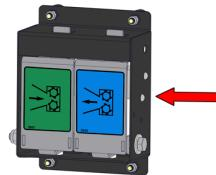

Figure 18 - Reverse Feed Control
6. Press the **BLUE** Reverse Feed Control (Figure 18).